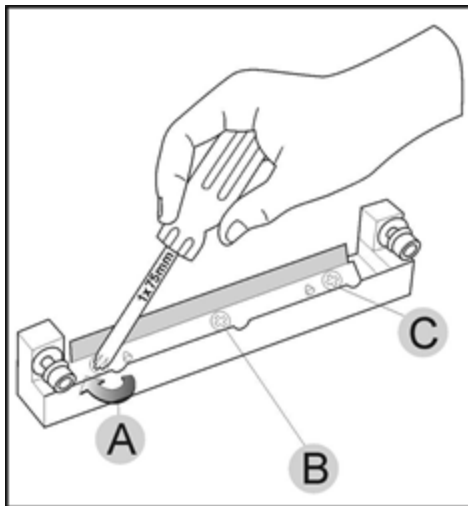

Figure 6-47 Tightening the roller scraper screws
- Tighten the screws in the order shown in Figure 6-47.